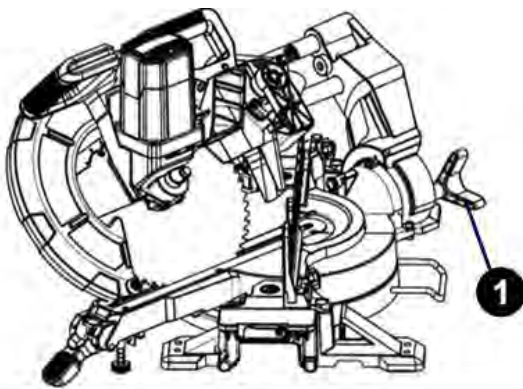

Fig. 14: Cross section
Step 1: Loosen the locking knob for the bevel position (Item 1, Fig. 14) and position the cutting head at the desired angle. Lock the miter lock knob.